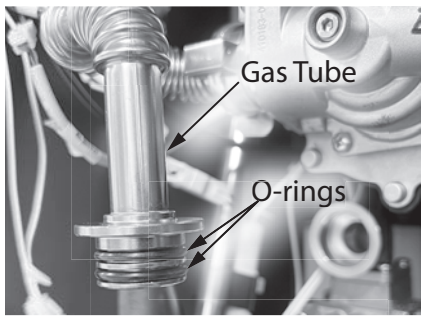

Figure 79 - O-ring replacement (two o-rings)
- 14 Install the two new O-rings on the gas tube as shown in Figure 79.